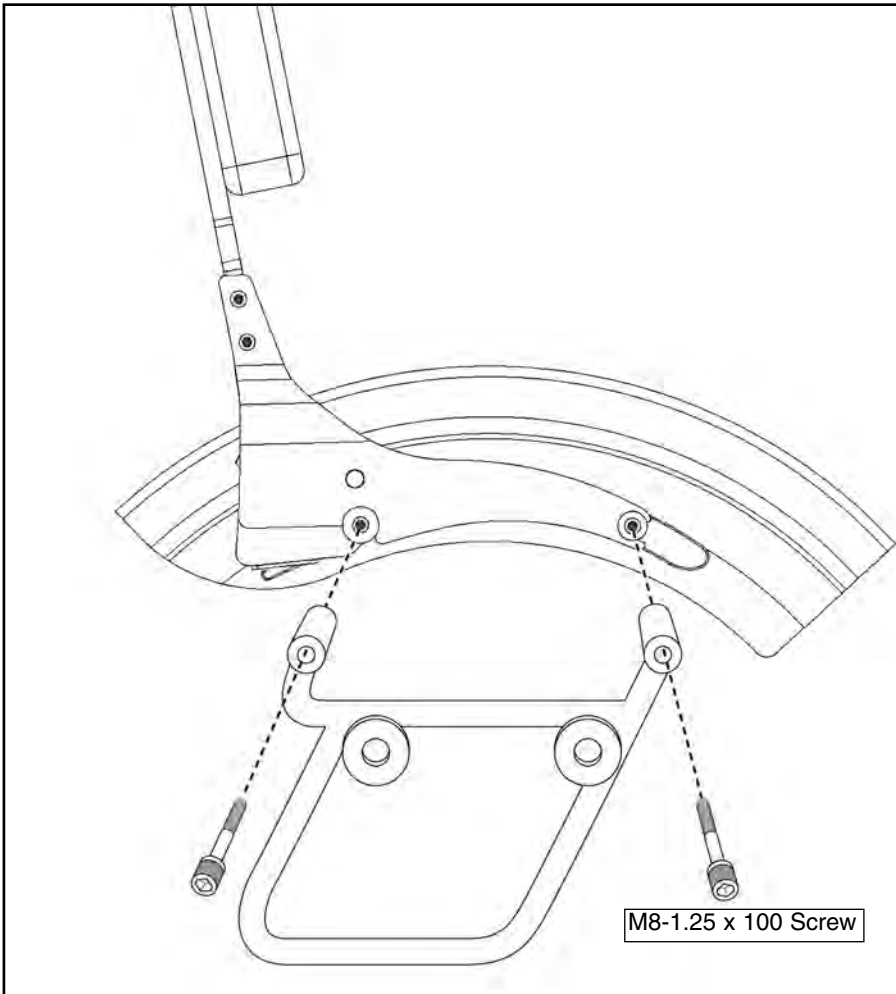

Figure 5
4. Install the frame bracket at the rear mount point using a M8-1.25 x 100 screw from National Cycle Supplemental Bag #897 (or use bolt of the same specification.) **(5mm Hex Key and 13mm Box Wrench) Figure 5**